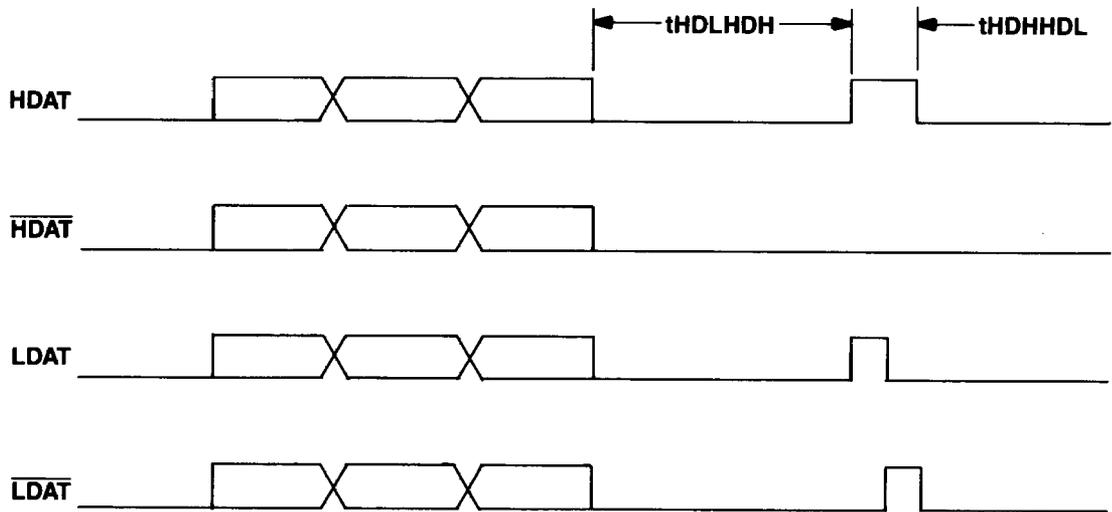

Figure 17. Transmitted Link-Integrity Pulses,  $\bar{L}I$  Enabled
**Table 6. Link-Integrity Pulse** (See Figure 17.)